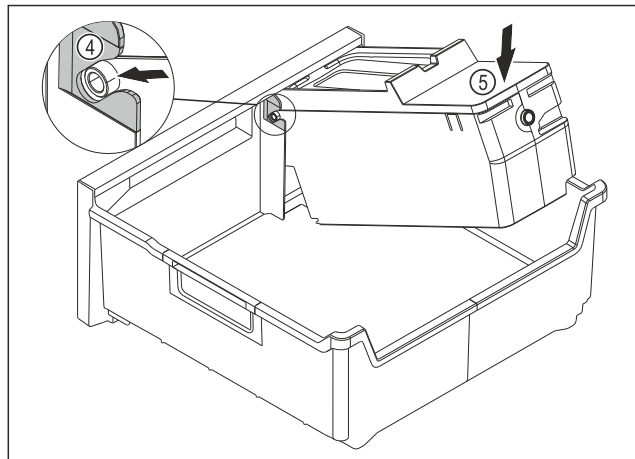

Fig. 176
- ▶ Installing the EasyTwist-Ice body: Push the axes for the EasyTwist-Ice body into the guides Fig. 176 (4).
- ▶ Press the EasyTwist-Ice body Fig. 176 (5) down at the back.